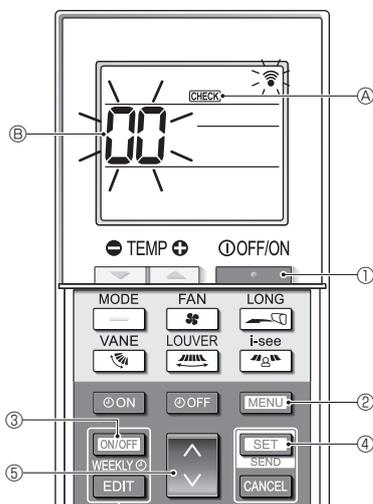

Fig. 7-6
■ Self-check (Fig. 7-6)
- Press the **[ON/OFF]** button ① to stop the air conditioner.
- If the weekly timer is enabled (**WEEKLY** is on), press the **[ON/OFF WEEKLY]** button ③ to disable it (**WEEKLY** is off).
- Press the **[MENU]** button ② for 5 seconds.
- CHECK** ④ comes on and the unit enters the self-check mode.
- Press the **[MODE]** button ⑤ to select the refrigerant address (M-NET address) ⑥ of the indoor unit for which you want to perform the self-check.
- Press the **[SET]** button ④.
- Press the **[ON/OFF]** button ①.
- CHECK** ④ and the refrigerant address (M-NET address) ⑥ go off and the self-check is completed.